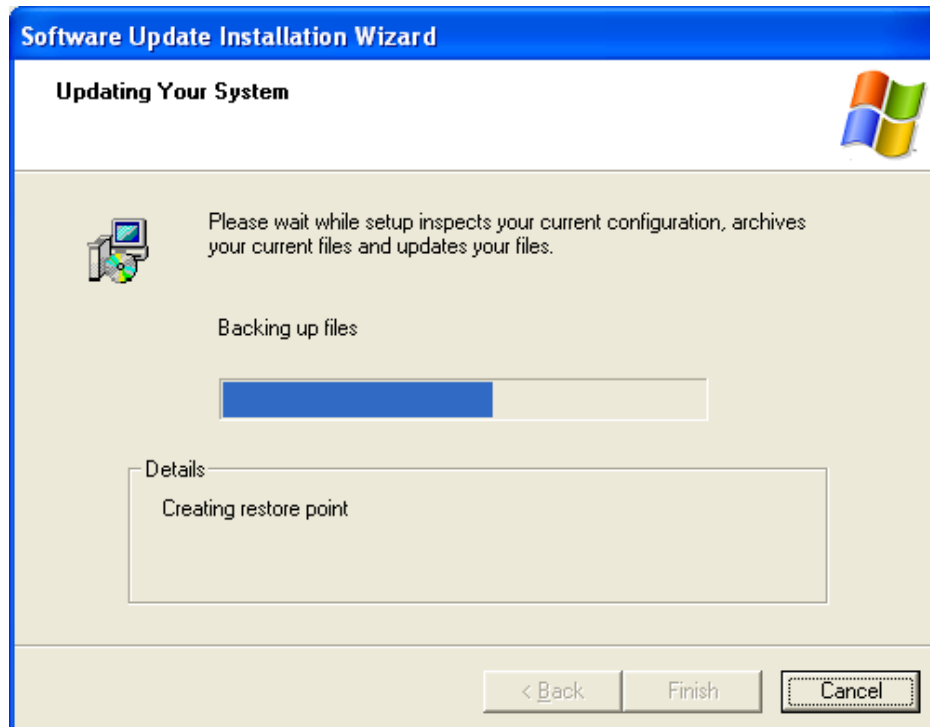

Figure 7-24: System Update
Step 5: The system updates. See Figure 7-24.